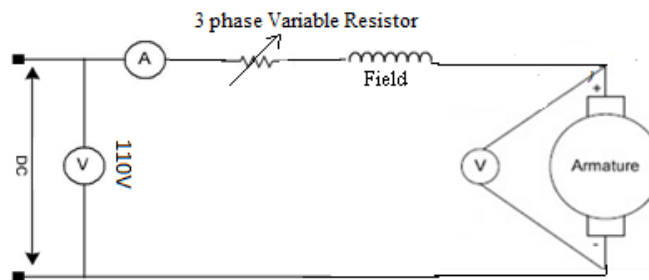

Figure 8.2: Speed control of DC series motor using armature resistance control
In Armature resistance control method, a variable resistance is directly connected in series with the supply to the motor. This reduces the voltage available across the armature and hence the speed falls. By changing the value of variable resistance, any speed below the normal speed can be obtained. This is the most common method to control the speed of DC series motor. Although this method has poor speed regulation, but this has no significance in case of series motors, because they are used in varying speed regulations. The loss of power in series resistance for many applications of series motors is not too serious, since in these applications the control is utilized for large portion of time for reducing speed under light load conditions and is only used intermittently when the motor is carrying full load. The circuit diagram for speed control of series motor using Armature Control Method is shown in Figure 8.2
1. Make connections as shown in Figure 8.2 by placing a variable resistance in series with the armature and field winding.